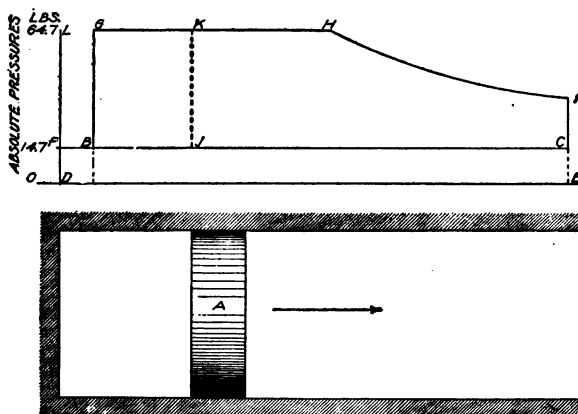
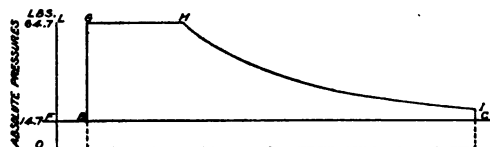
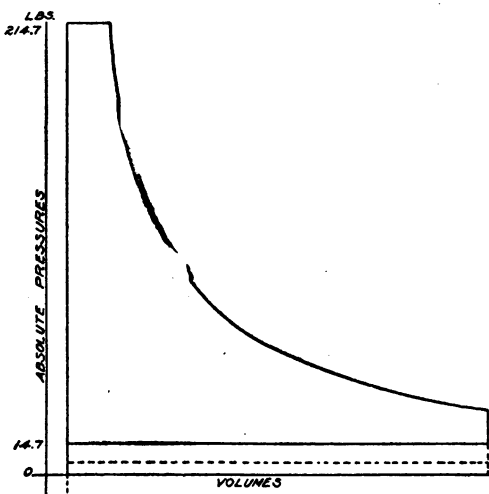

Fig. 13. Theoretical Indicator Diagram for One-Half Cut-Off
Fig. 14. Theoretical Indicator Diagram for One-Quarter Cut-Off
Fig. 16. Theoretical Indicator Card for One-Tenth Cut-Off
the expansion force of the steam. For this reason, all practical steam engines are made to admit steam only for the first portion of the stroke, that is, about one-half stroke or less, the remainder of the stroke being devoted to expansion. In Fig. 13, suppose  $A$  represents the position of a piston moving from left to right. The horizontal distance  $BC$  represents the stroke, and vertical distances represent steam pressures.  $DE$  is the line of zero pressure, and  $FC$  that of atmospheric pressure. Suppose steam is admitted at 50 pounds gage pressure during the first half of the stroke from  $G$  to  $H$ ; the steam port then closes and the steam expands with diminishing pressure along the curve  $HI$ . Since work is the product of force into distance traveled, it follows that for each fraction, such as  $BJ$  of the piston travel, the included area  $BGKJ$  will represent the work done during that portion of the stroke, and the area of the entire card  $BGHIC$  will represent the work done during the whole stroke.
**Indicator Diagrams.** A diagram such as Fig. 13 is called the "indicator diagram" or "indicator card", and is employed to study
the internal action of the engine. The expansion curve of steam follows Boyle's Law with sufficient closeness for practical purposes. Fig. 14 is similar to Fig. 13
In the foregoing, no mention has been made of the contents of the steam passages between the slide valve and the cylinder, or of the clearance volume between the piston and the cylinder head when the crank is on dead center. These clearance spaces cannot wholly be avoided, but it is desirable to reduce them as much as possible. It is customary in indicator cards to represent the clearance space by an area to the left of the actual indicator card. This area is *FLGB* in Fig. 13 and Fig. 14. Its volume averages about 5 per cent of the volume swept by the piston. Owing to the necessity
of taking the steam in the clearance space into account, the actual steam consumption in Fig. 14 is a trifle more than half that in Fig. 13.
**Effect of High Pressure and Early Cut-Off.** As Fig. 14 shows, no great advantage is gained when working with steam at 50 pounds
by cutting off earlier than one-third stroke. If higher pressure is used, however, the cut-off can be considerably shortened. Fig 16 is a theoretical indicator diagram for 200 pounds gage pressure (214.7 absolute). The clearance is 5 per cent of the piston displacement, and cut-off occurs at one-tenth stroke. The weight of steam per stroke is about the same as in Fig. 14, but the work done by the